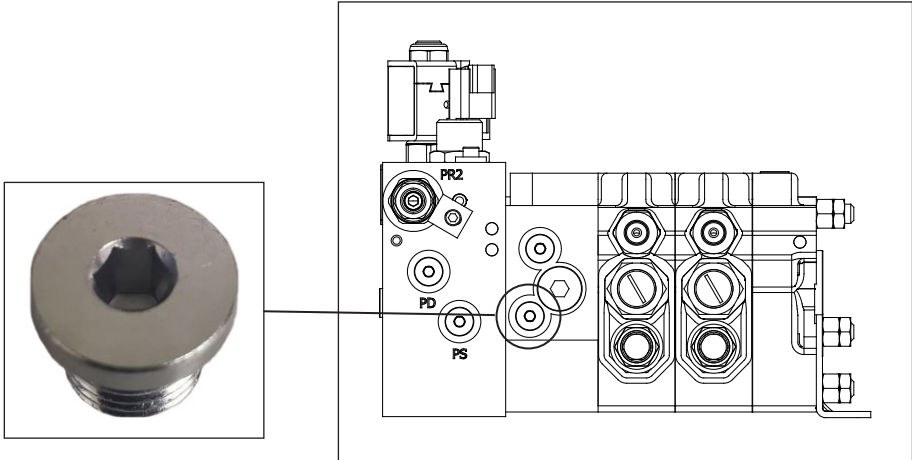

Figure 4 – Valve with Correct Plug
- If there is a round head hex socket plug at this location (refer to Figure 4), there is no issue with the valve. Reinstall the lower cover if it was removed, and return the unit to service. Complete the Inspection Sheet at the end of the CSN and return it to Altec as specified.